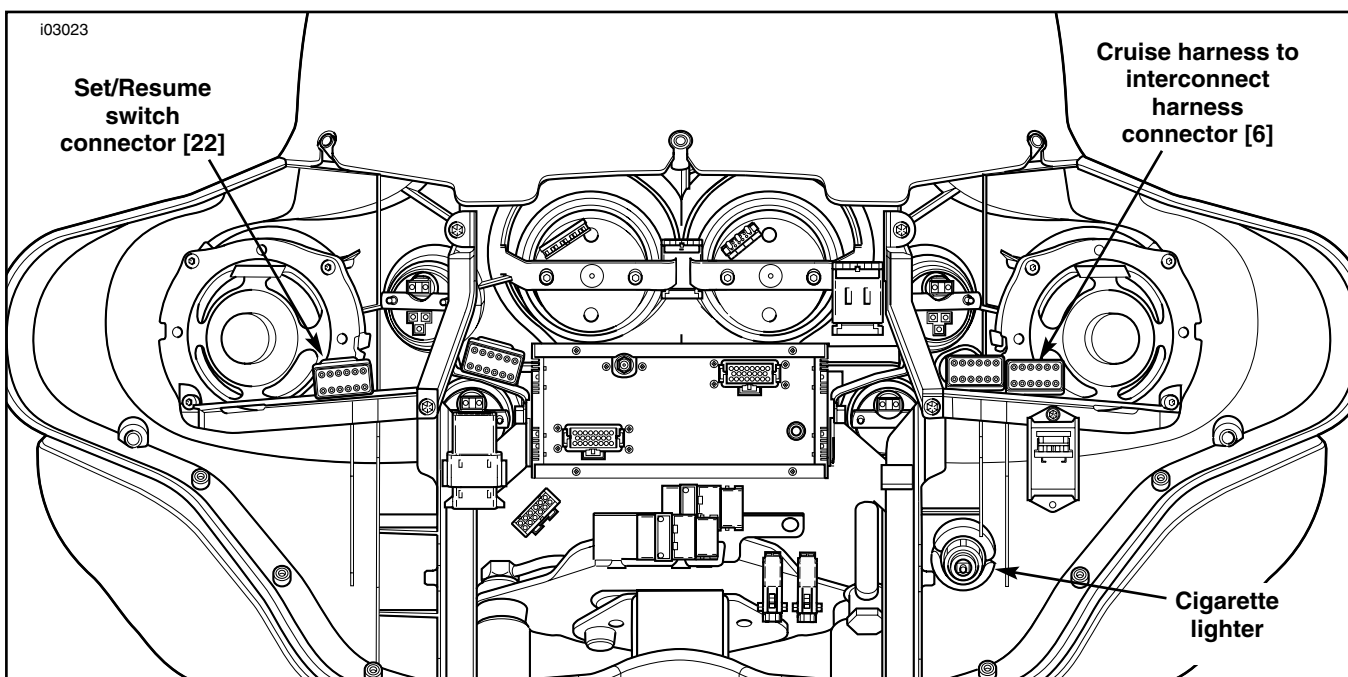

Figure 11. Cruise Harness Connections At Inner Fairing
2. Install Set/Resume switch wires into cavities 11 and 12 of connector [22] as follows (see Figure 11 for connector location):
- b. Follow procedures under **Sealed Butt Splice Connectors** in Service Manual to connect O/W wire in kit (item 30) to O/V wire of Set/Resume switch using heat sealed connector in kit (item 5).
- c. Crimp 2-into-1 terminal in kit (item 29) onto end of O/W wire and route wire to cigarette lighter (see Figure 11 for location of lighter).